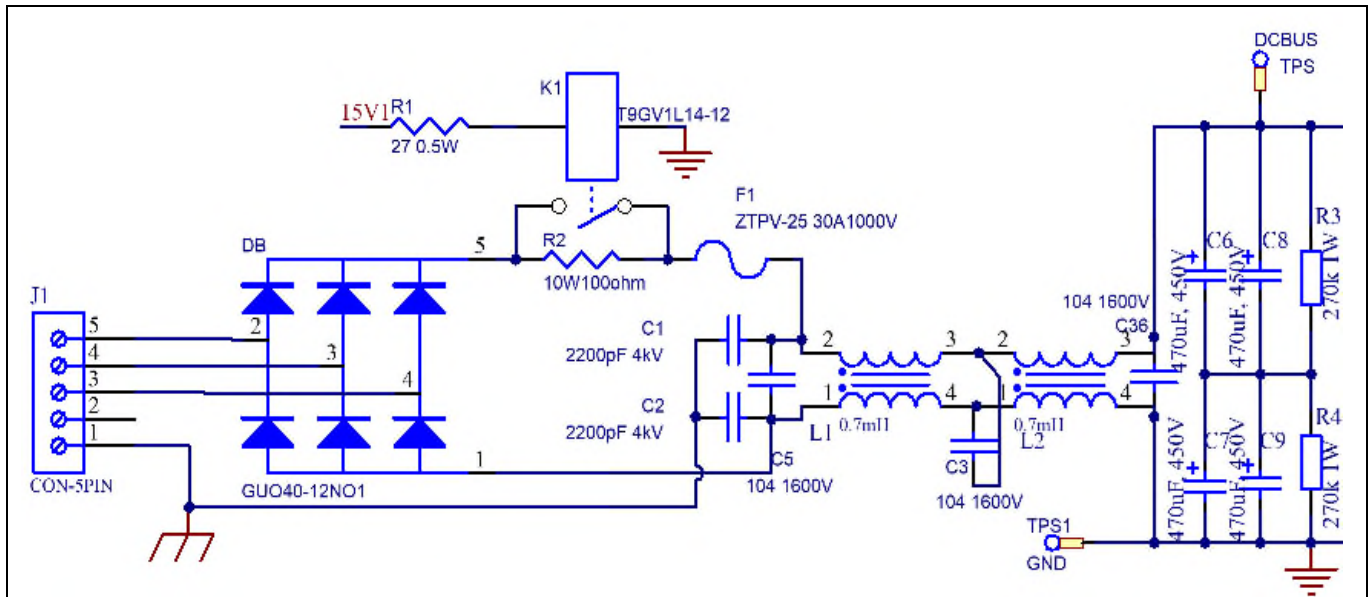

Figure 17 The schematic of AC/DC section and soft start circuit
Figure 17 depicts the schematic of the AC/DC input section. It includes the connector J1, the rectifier (DB), soft start (R2, K1), a passive EMI filter (C1, C2, L1, L2), a fuse F1 for over-current protection, and DC bus capacitors (C6, C7, C8, C9).